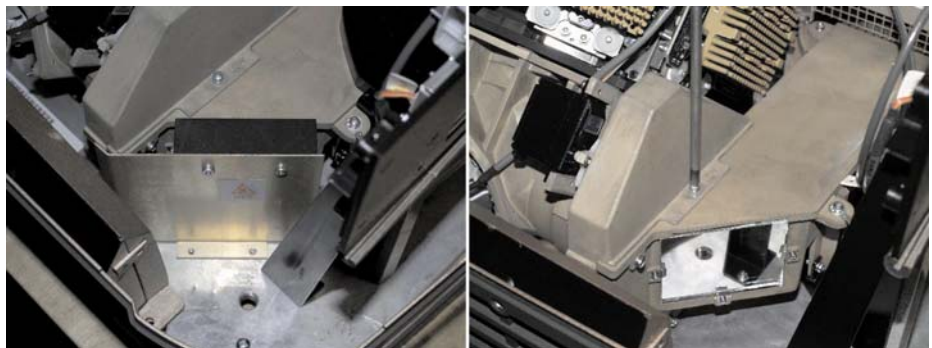

Figure 36. Remove Cold Mirror Heatsink and Aperture Cover
4. Remove the cold mirror heat sink (2 - #2 Phillips screws) as shown in Figure 36.
5. Remove the contrast aperture cover located between the cold mirror heat sink and contrast aperture motor assembly (2 - #1 Phillips screws). See Figure 36.